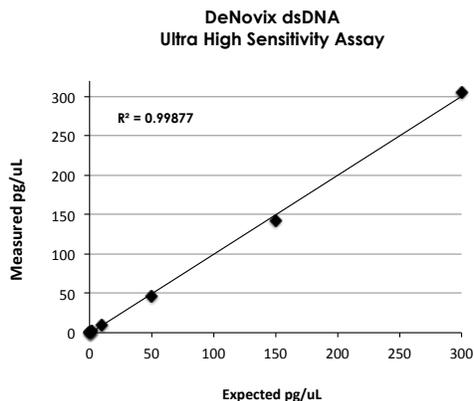

Fig. 2. Standard range using 10 μ L of sample in 200 μ L of dye reagent.
3. Plot the fluorescence RFU values for the DNA standards on the y-axis and pg/well DNA on the x-axis, and fit a trend line (Figure 2) through these points to generate a standard curve with a y-intercept = 0.